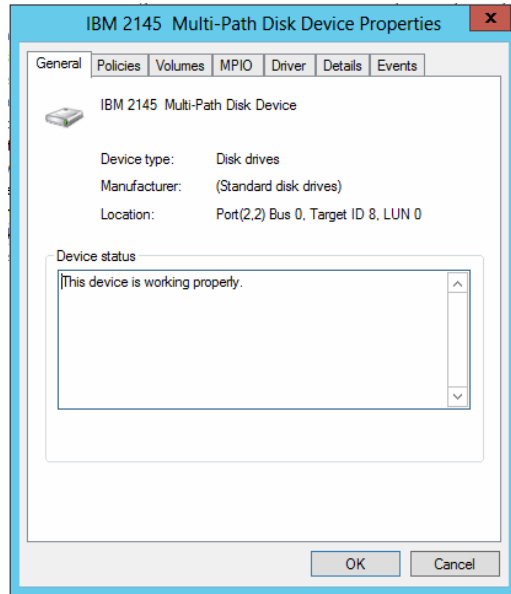

Figure 6-69 Device properties
3. The only difference now is that these volumes are presented from the Storwize V3700 using the IBM SDDDSM MPIO driver. You can see this by right-clicking any disk label (Disk 1, Disk 2, or Disk 3) and clicking the properties, as shown in Figure 6-69.